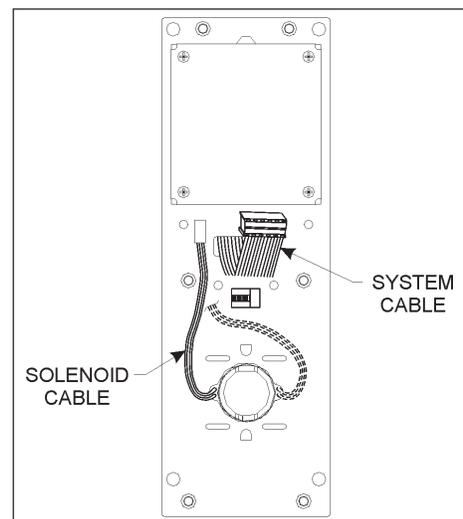

Figure 13
- Guide the solenoid cable through the hole in the backing plate. Refer to Figure 13.